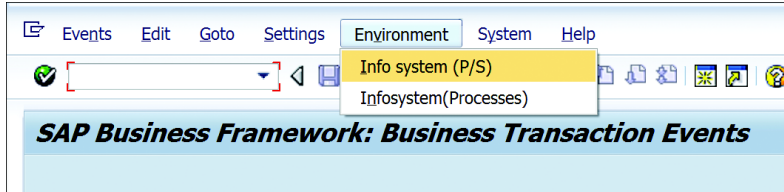

Figure 20.62 Menu to Locate Interface
1. On the initial screen of Transaction FIBF, follow the menu path ENVIRONMENT • INFO SYSTEMS (P/S) to find a suitable interface, as shown in Figure 20.62.